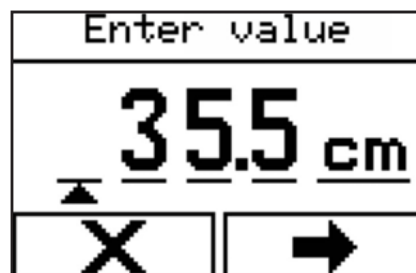

Figure 94 - Entering a value
2. Set the new stroke height (Figure 94) and unit (cm, mm, inches or %).